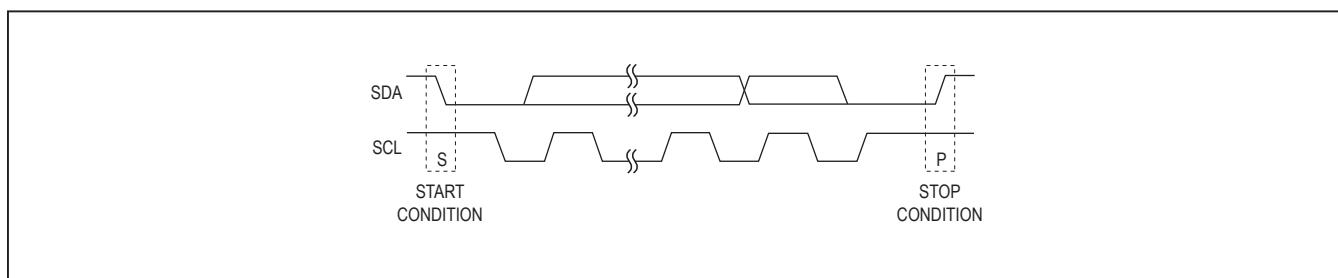

Figure 4. Start and Stop Conditions
Both SCL and SDA remain high when the interface is not busy. A master signals the beginning of a transmission with a START (S) condition by transitioning SDA from high-to-low while SCL is high (Figure 4). When the master has finished communicating with the slave, it issues a STOP (P) condition by transitioning SDA from low to high while SCL is high. The bus is then free for another transmission.